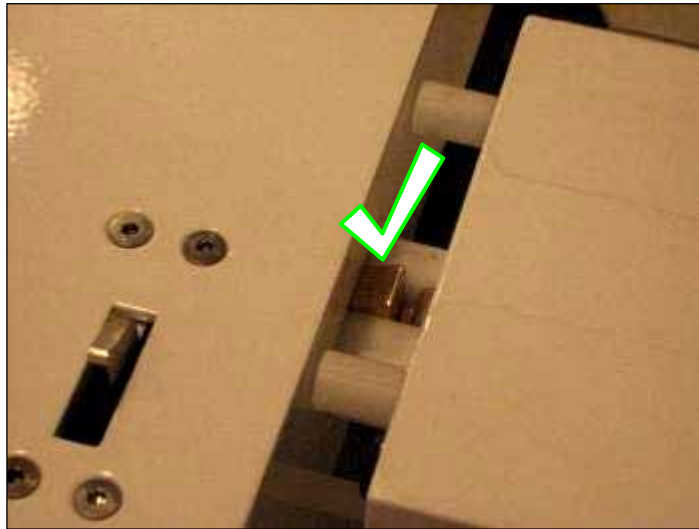

Figure 51
4. Close the stretcher bridge most of the way so that its spring plungers are just contacting the LBS (Figure 51). Adjust the UBS so that the bridge's nose doesn't rub either side of the square hole in the LBS.